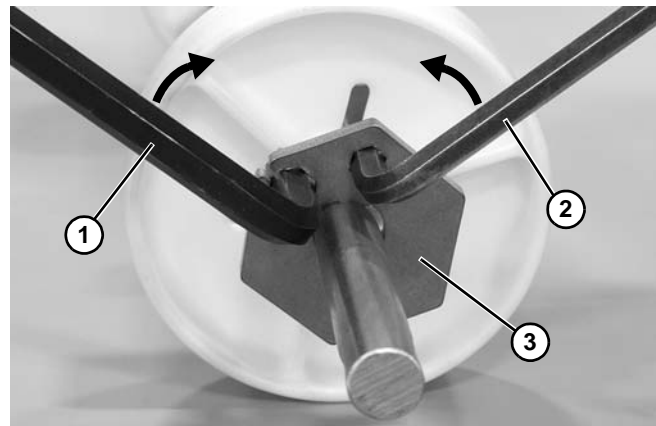

Figure 77
- a. Insert an 8 mm (Figure 77, item 1) and 6 mm (Figure 77, item 2) hex wrench into the retainer plate.
- b. Move wrenches toward each other to open the retainer plate (Figure 77, item 3) and install onto the shaft. Position retainer plate where needed.